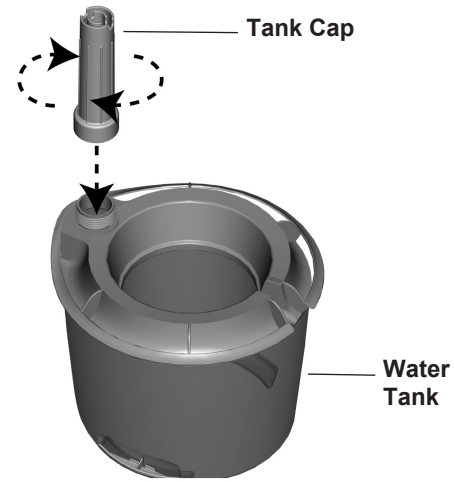

Figure 13
5. Replace the Tank Cap by screwing it clockwise onto the Water Tank. See Figure 13.